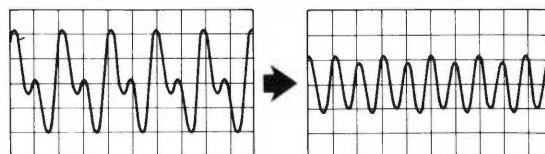

Fig. 4-6-7
- 4) Adjust the half-fixed resistor R715 ($\sim$ R745) in a way that waveform of TP-13 ($\sim$ TP-43) terminal turns to a sine wave with 200Hz as shown in Fig. 4-6-7.
- 5) Check TP-13 (~ TP-53) waveform outputs a sine wave of 200 Hz as shown in Fig. 4-6-7.